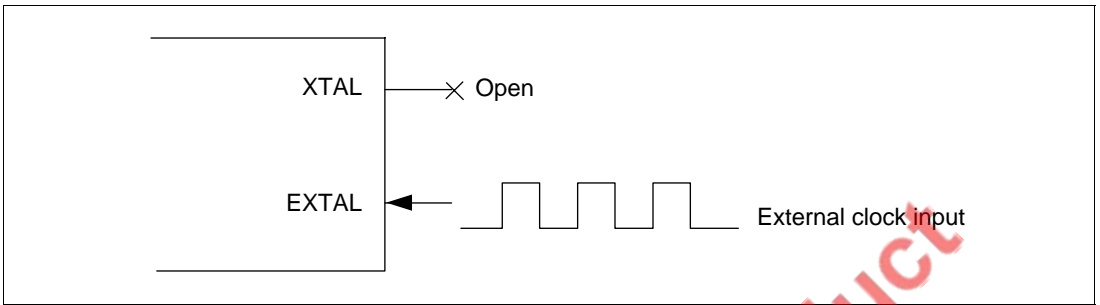

Figure 4.4 External Clock Input
Input the external clock to the EXTAL pin and leave the XTAL pin open (figure 4.4.). The external clock frequency should be the same as that of the system clock (CK).